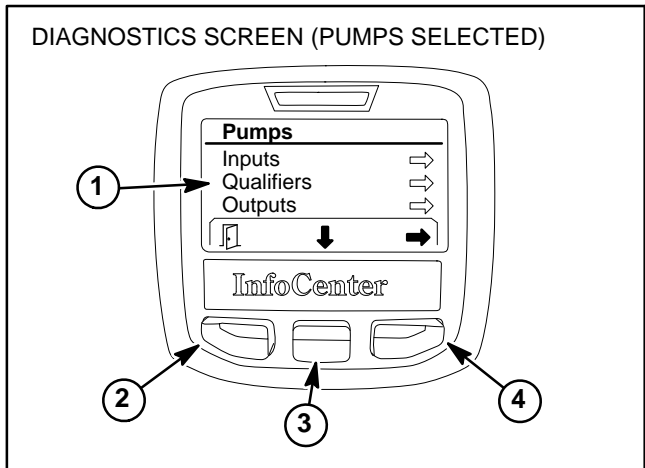

Figure 24
3. Select (highlight) the malfunctioning machine operation and press the Right/forward button (as indicated by the ➡ at the bottom of the screen). For this example, the Pumps operation has been selected (Fig. 24).